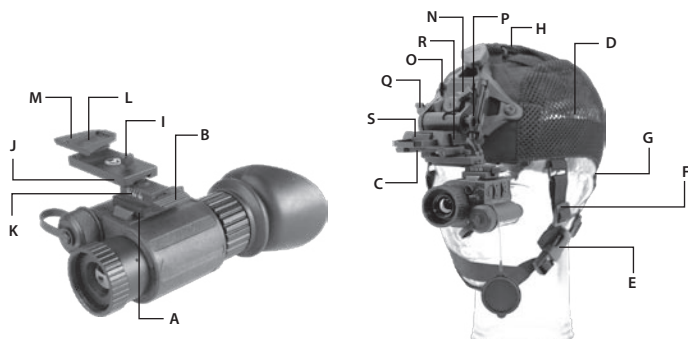

FIGURE 3-2. MOUNTING THE Q14 TO A TACTICAL GOGGLE KIT
To mount the Q14 to a Tactical Goggle Kit, use a Swing Arm adapter. Insert the Q14 rail into the guide (Figure 3-2, A) of the adapter. Push the lever down (B) and slide the unit until it is parallel with the alignment groove on the adapter. Push until you hear a clicking noise, indicating that the unit is locked into the transfer adapter.
1. Unscrew the two screws (Figure 3-2, L) and uninstall the plate (M).
2. Turn the plate (B) around.